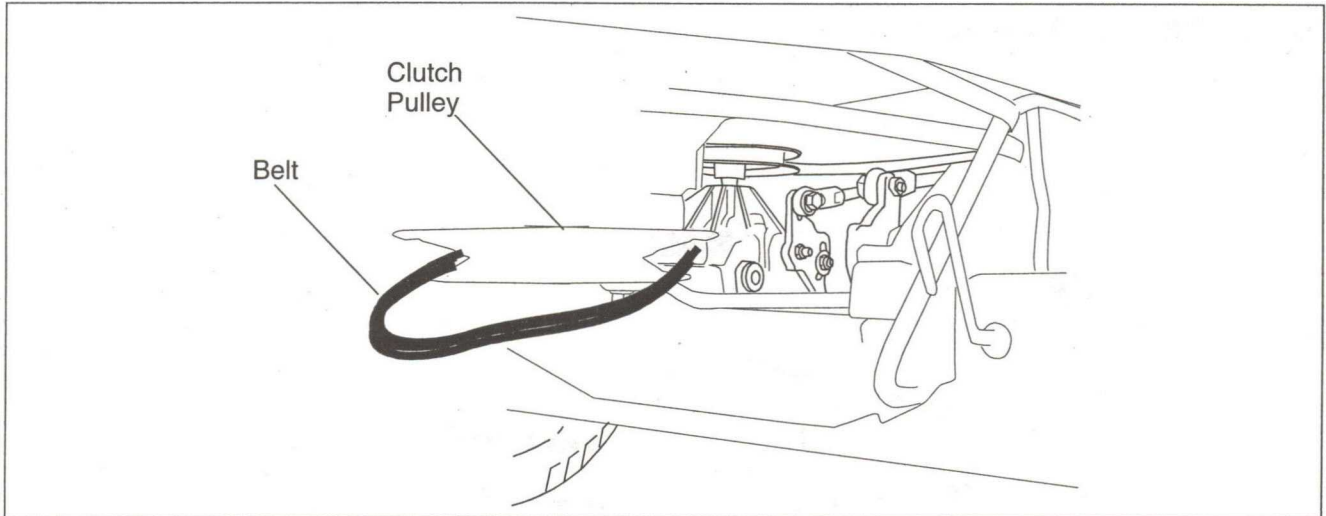

Figure 24
13. Locate the Clutch Pulley. It is located in the rear of the tractor, below the muffler. (See Figure 24)
14. Remove the belt from the Clutch pulley. (See Figure 24)